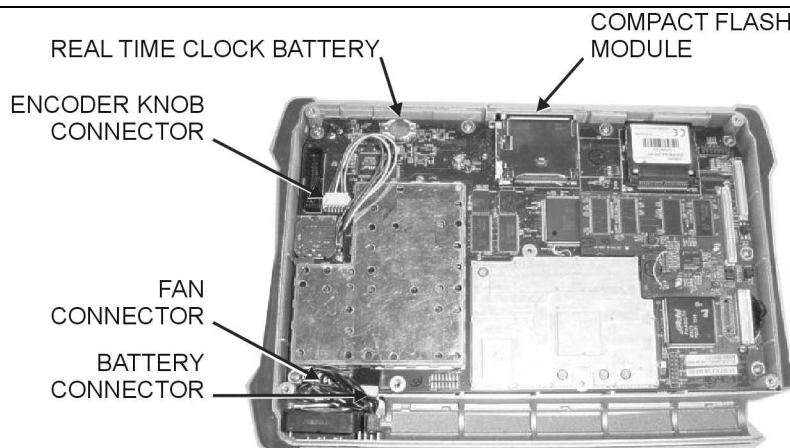

Figure 17. Main PCB Assembly Replacement
5. Lift the bottom edge of the Main PCB assembly and disconnect the battery connector from J1001 on the main PCB (Figure 17).